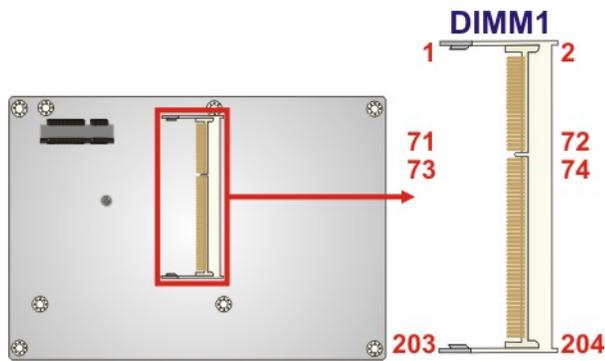

Figure 3-22: SO-DIMM Connector Locations
- CN Location:** See **Figure 3-22**